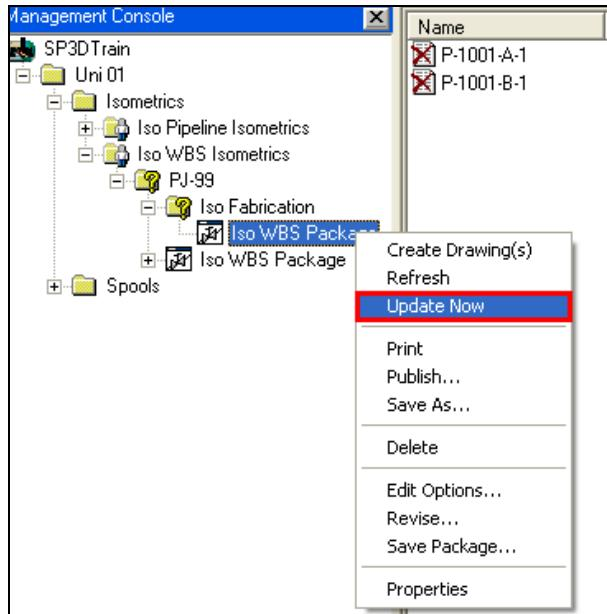

Figure 42: Updating the Drawing Documents Created from WBS Items
42. Right-click the **Iso WBS Package** isometric drawing type and click the **Update Now** option, as shown in Figure 42, to update the drawings for both the WBS groups.